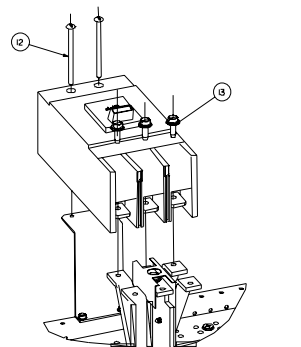

Figure 8
9. Reference fig. 8 - Install a circuit breaker by inserting one 5/16-18 screw (item 13) into each of the three contacts on the line side of the breaker and into the three 0.281" diameter holes in the phase straps. Insert two 1/4-20 X 3/4" screws (item 12) into the two 0.228" diameter holes in the mounting bracket and tighten securely. Torque the 5/16-18 screw connections to the values as specified on the rear of the deadfront.